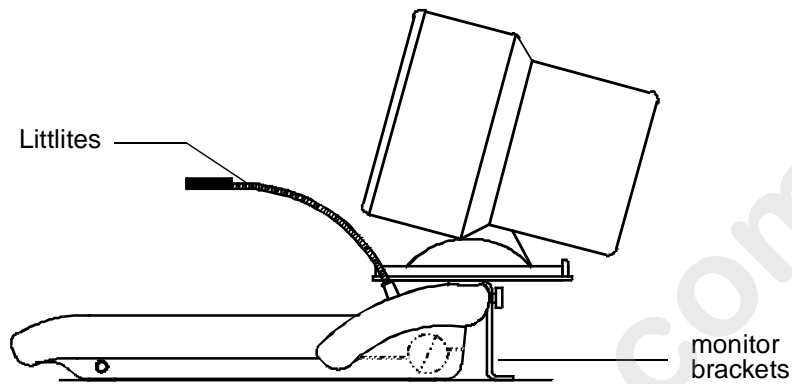

*Figure 1.10. Attaching Mounting Brackets to Console*
1. Open the Console and remove the four mounting brackets and four mounting bracket knobs from the Console storage tray. Figure 1.10 shows a mounting bracket and a mounting bracket knob.
2. Notice that on the rear of the Console there is a channel containing four nuts as Figure 1.10 shows. Slide two of the nuts to the general area along the channel where you want to position your monitor (left, center, or right).
3. Align the hole in one of the mounting brackets with the nut in the channel and fasten with the mounting bracket knob. Do not tighten down yet. Do the same with the other mounting bracket. Refer to Figure 1.10.